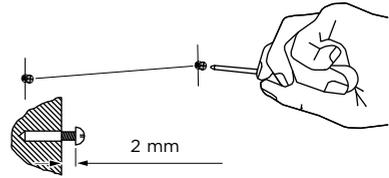
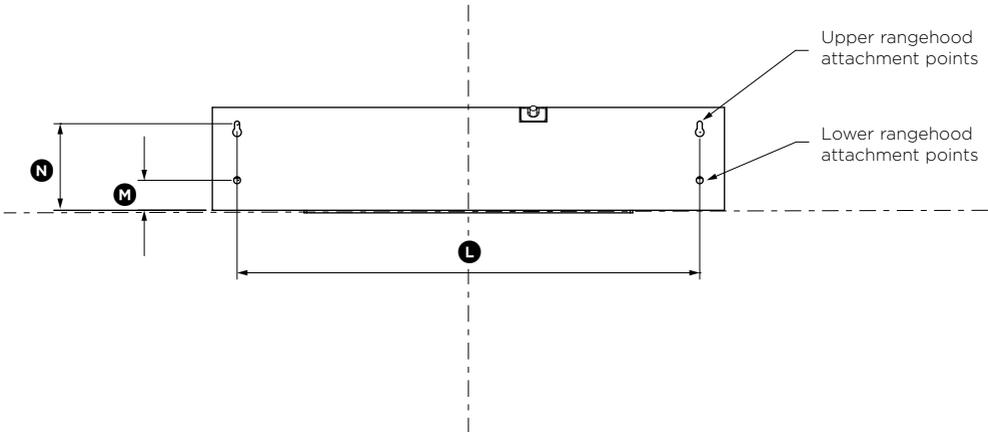

Fig.3
Fig.4
① Attach the rangehood mounting screws to the wall
- Attach the upper rangehood mounting screws in the locations shown in Fig.4. Use 30 mm screws (and expansion plugs if attaching to masonry). Ensure that there is a 2 mm gap between the screw head and the wall (see Fig.3).